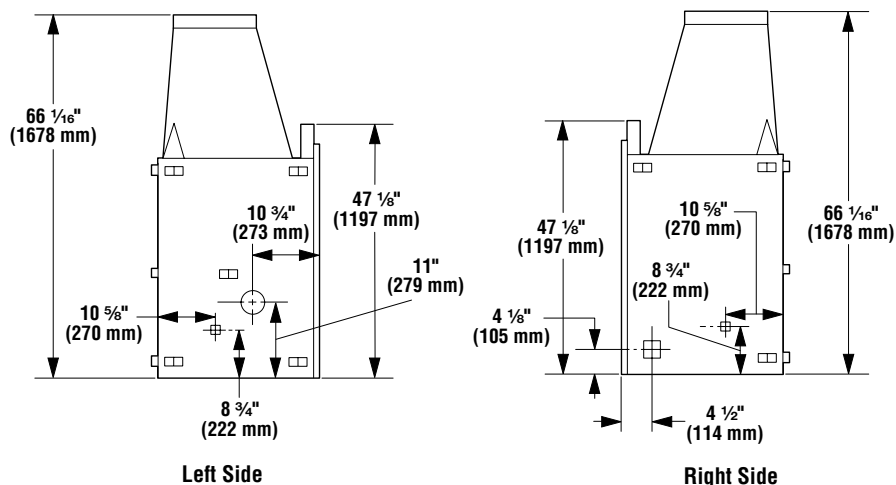

**Figure 10**
**Step 4.** Fireplace may be anchored to floor. Bend down four (4) anchor tabs located at the base of the fireplace and secure to the floor by nailing with 8d nails (*Figure 10*).